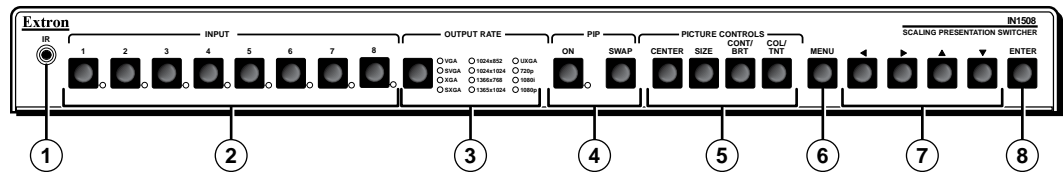
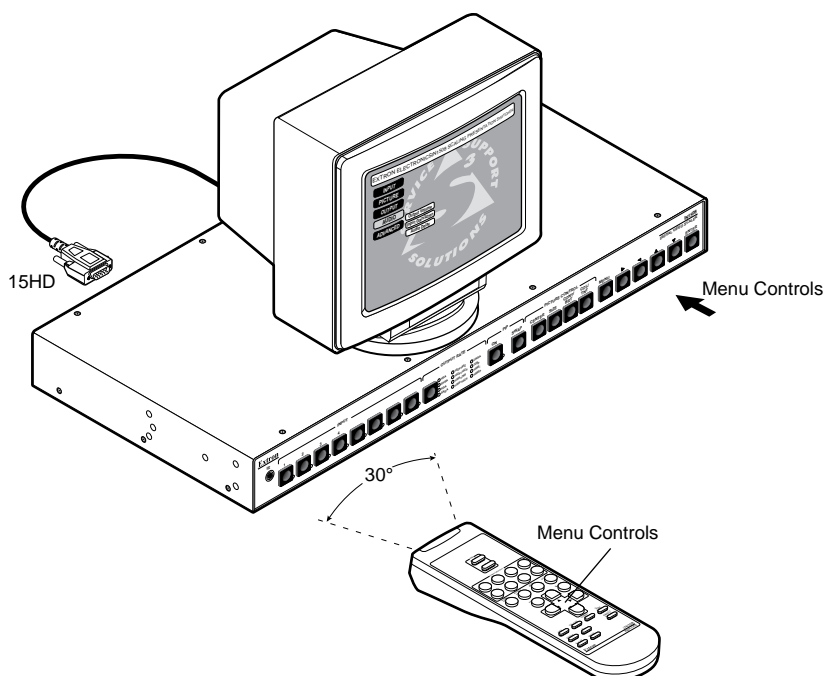
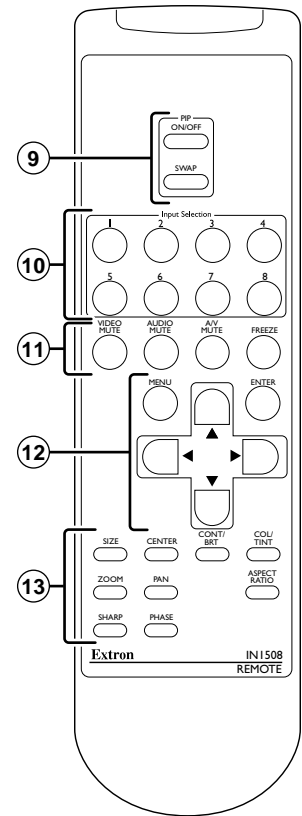

Figure 7. IN1508 Scaling Presentation Switcher Front Panel
Figure 8. Menu System Display
Figure 14. IR Remote Control
All of the switcher controls are on the front panel (see figure 7). Many controls are duplicated on the IR remote control (see figure 14 on page 15). Front panel LEDs provide graphic indication of some of the basic system functions. For more complex tasks, such as system configuration, the switcher has a menu system that is operated by using the front panel or IR remote control buttons. The menu system reports via an on-screen display on the connected output device (see figure 8 on the next page).
- ① **Infrared remote sensor** — This sensor receives infrared (IR) signals from the included IN1508 remote control. The IR remote control must be pointed within 30 degrees of this sensor (see figure 8 on the next page) for best results.
To control the switcher with the hand-held IN1508 remote control (see figure 14), aim the hand-held unit at the IR detector on the switcher and press the desired buttons on the remote. The maximum operating range is 30 feet.